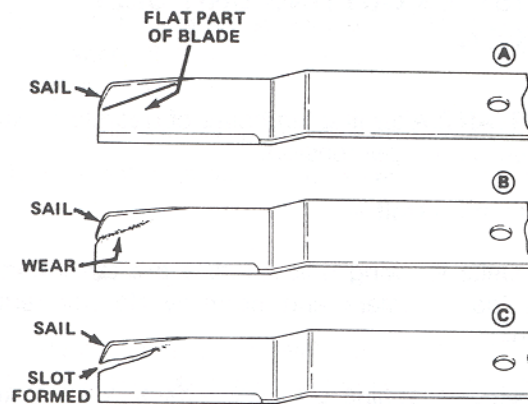

Figure 65
2. Carefully examine cutting ends of the blade, especially where the flat and sail (curved part) meet (Fig. 65-A). Since sand and abrasive material can wear the metal connecting the flat and sail portions, check the blade before using the machine. If any wear is noticed (Fig. 65-B), replace the blade; refer to Removing the Cutting Unit Blade, page 52.